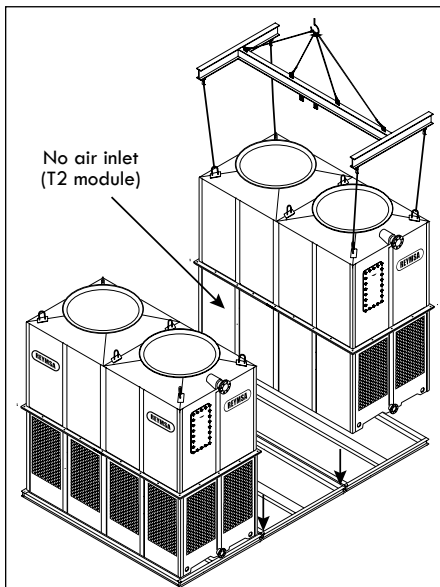
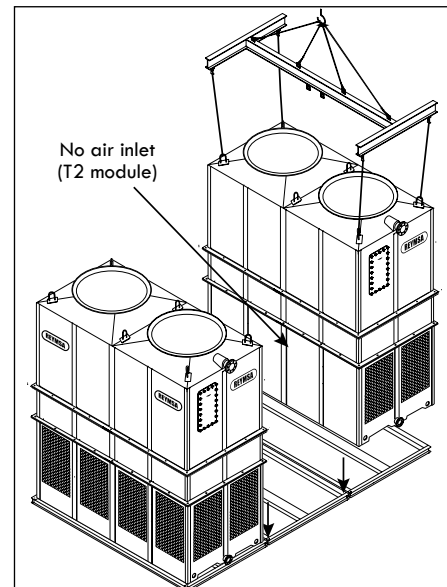

Figure A-63: L-Orientation - T2 module lifting and installation (RTM-B-L or RTPM-B-L)
Figure A-64: L-Orientation - T2 module lifting and installation (RTM-D-L or RTPM-D-L)
- B. Repeat the previous steps to install the remaining modules. Pay attention to the correct module arrangement; Each module is labeled alphabetically (module 1: A; module 2: B, etc.) for a proper installation (see Figure A-63 and Figure A-64).